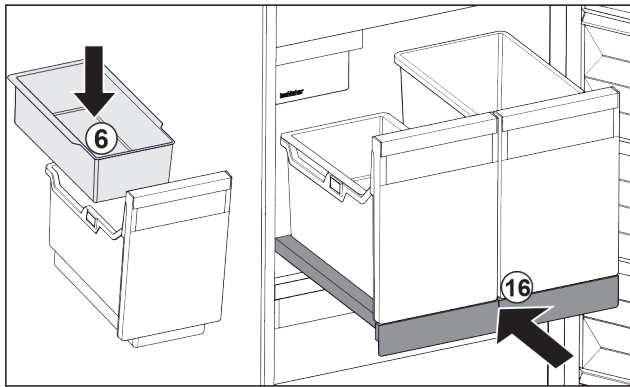

Fig. 125
- ▶ Insert hang-on tray Fig. 125 (6) for ice cubes.
- ▶ Slide in the pull-out board with (IceTower) container. Fig. 125 (16)